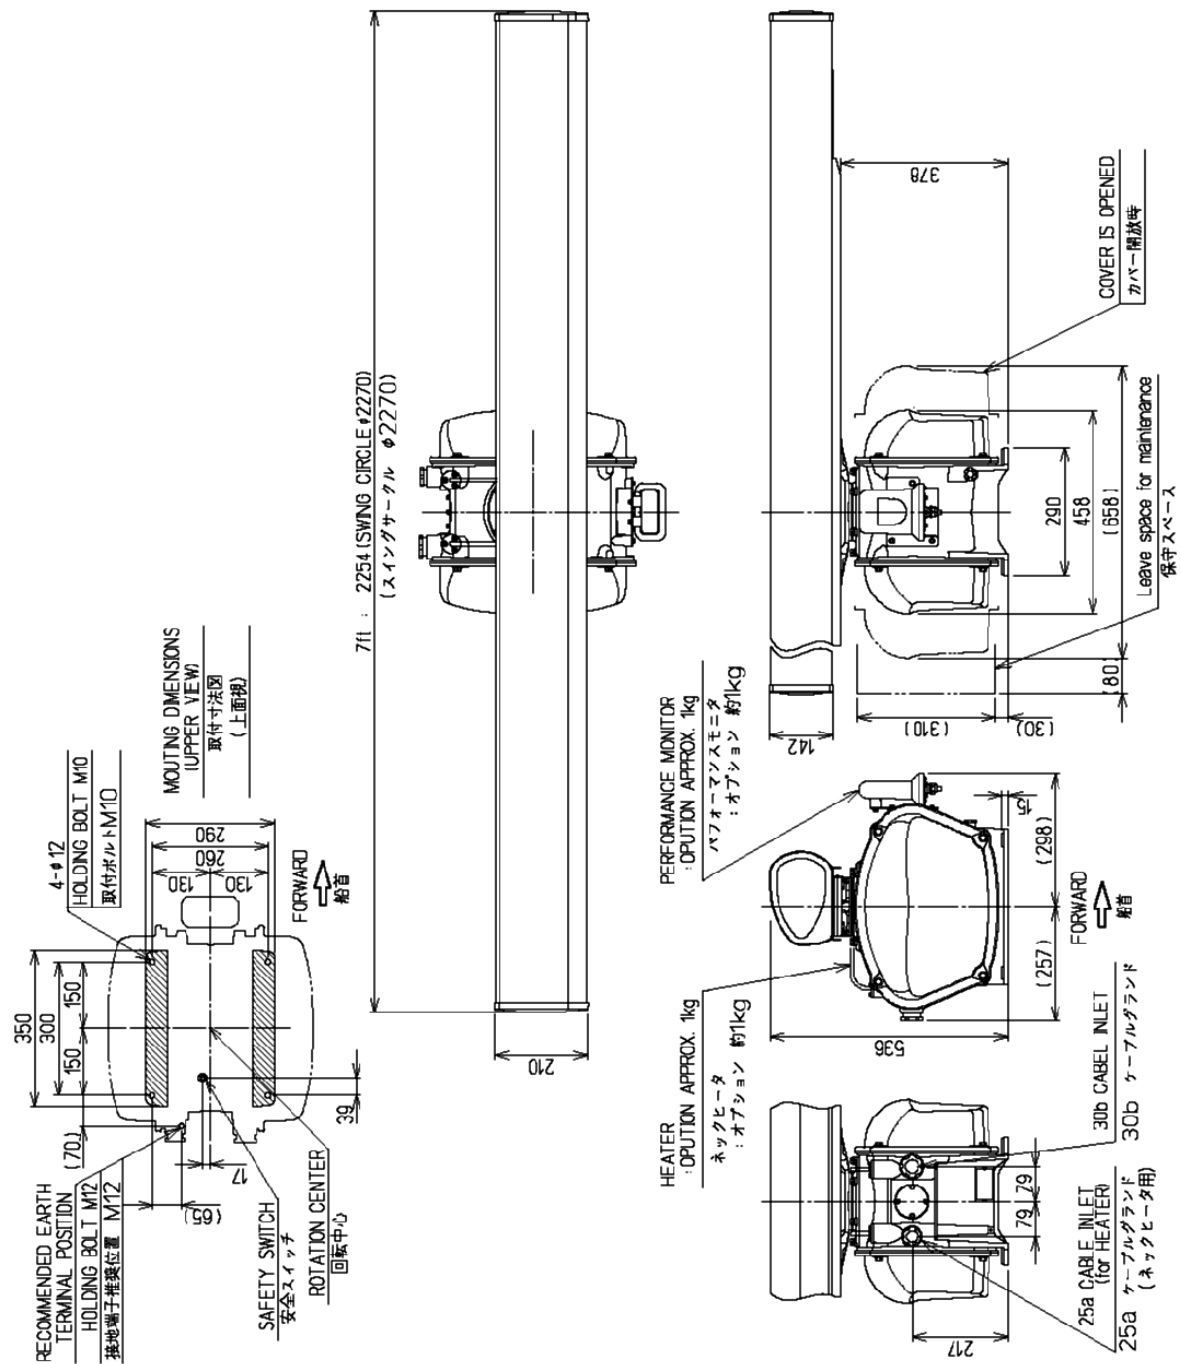

Fig. 1.2 Outside Drawing of SCANNER UNIT, Type NKE-600-2E1T
- Fig. 1.2 Outside Drawing of SCANNER UNIT, Type NKE-600-2E1T